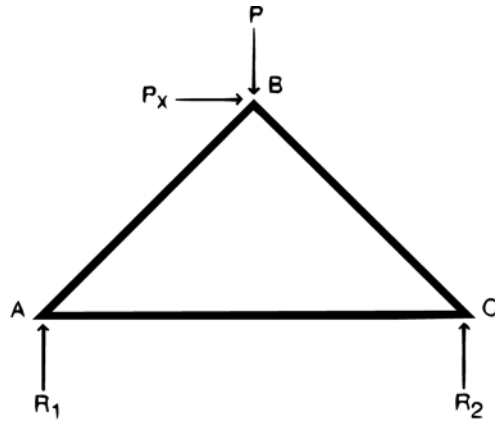

Figure I.3
- 2) A free body diagram of the entire truss can be used to find the reaction forces. For example, the force and moment equilibrium imply that the reaction forces R_1 and R_2 in the structure in Fig. I.3 are $R_1 = R_2 = P/2 = 0$, and $P_x = 0$.